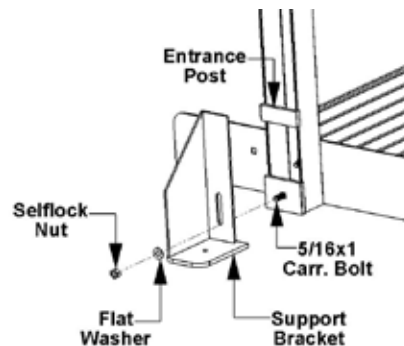

Fig.4.6
*Note: Place Entrance Posts at base of bottom ramp as shown in Fig.4.6 found on page 19.*
**4.2.1 Entrance Assembly:** Locate the entrance post. The entrance post has plates welded to them to attach the support brackets at the beginning of the entrance section (**Fig.4.6**). Install this post using only one bolt to the bottom of the entrance ramp section in the same manner as all other handrail posts (found in **Section 4.2**, pg.17). Continue installing and splicing all handrail assemblies for bottom ramp run (go to **Sections 4.2 & 4.3**; repeat as needed). Attach the support brackets by running a carriage bolt through the square hole of entrance post plate, place the slotted hole of the support bracket over the carriage bolt and fasten using a flat washer and self locking nut (**Fig.4.6**), do not tighten all of the way down.